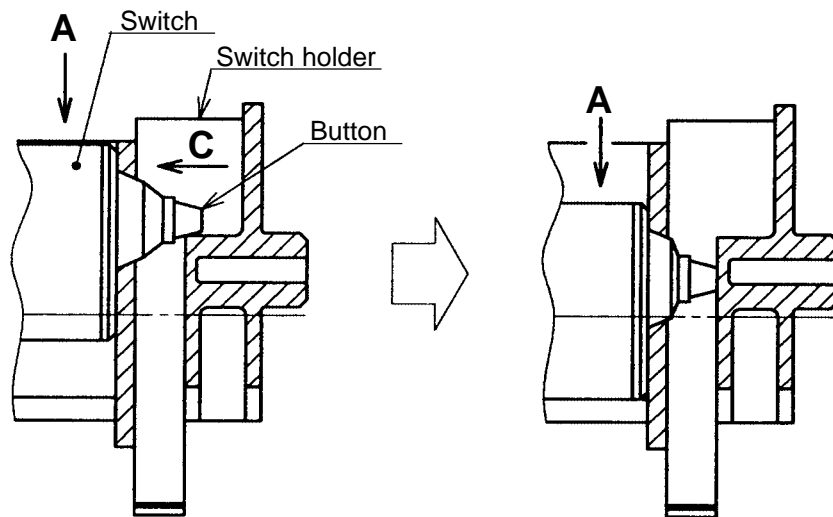

Fig. 8
4. Pressing the button of the Pushing Button Switch [49] <48> in the arrow "C" direction, press the Pushing Button Switch [49] <48> in the arrow "A" direction to remove the Pushing Button Switch [49] <48> (See Fig. 8).